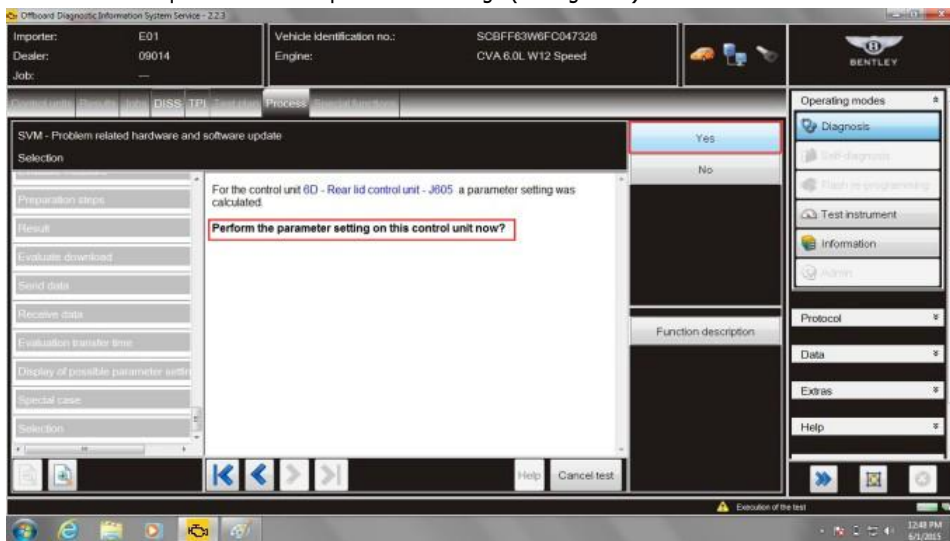

Figure 10
20. Select Yes to perform the parameter settings to the Rear lid control unit – J605 (see Figure 10)